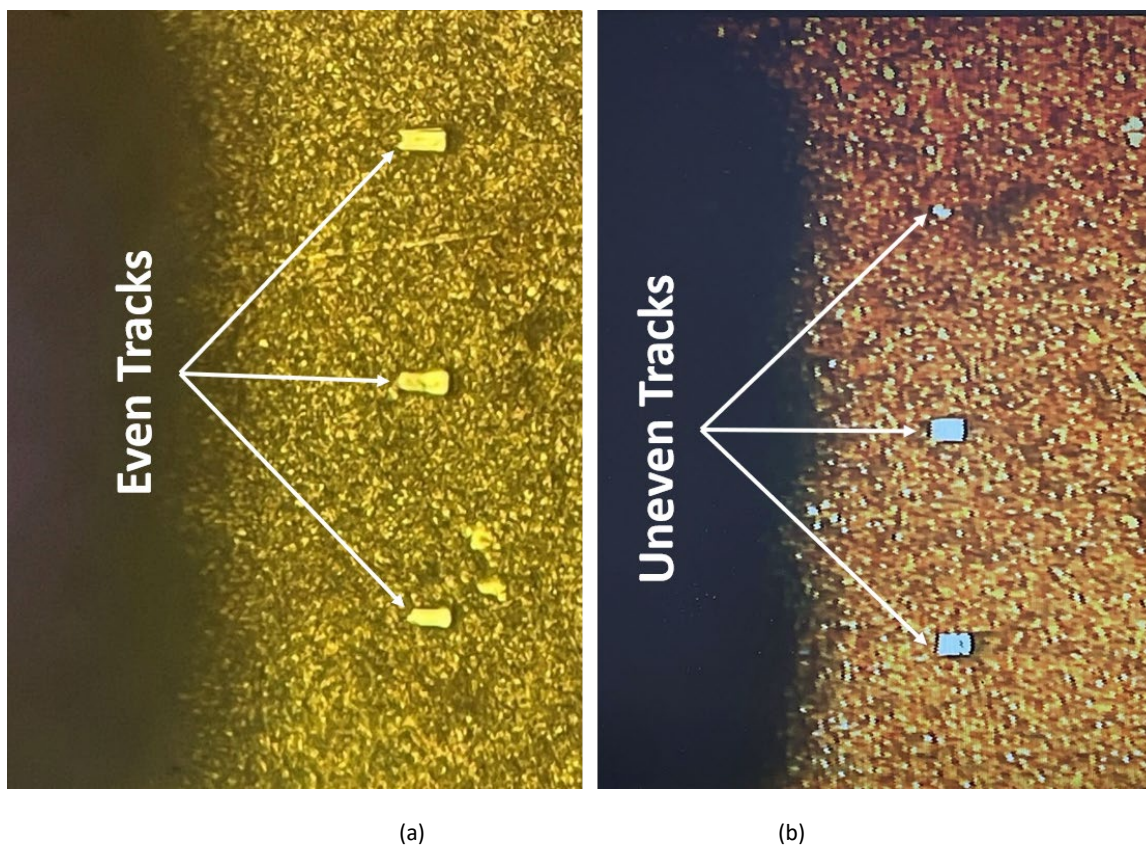

Fig. 4.3. (a) Even and (b) uneven tracks left by planarized and tilted probes, respectively.
- 4.7 While monitoring through the microscope the movement of the probes, bring one probe down further to contact the contact substrate. **Be gentle to avoid crash landing!** Allow the tips to skate on the contact substrate for about 25 μm as revealed by their tracks after the probes are lifted up [Fig. 4.3(a)]. Estimate the length of skate by comparing it to the probe pitch. For example, for a probe pitch of 100 μm , the skate should be about one quarter of the pitch, although orthogonal. **Don't damage the tips by making them skate too far!**
- 4.8 If the three tracks are uneven [Fig. 4.3(b)], finetune the θ -micrometer of the probe positioner, move to a new contact area, and repeat Step 4.7 until all three tracks are even [Fig. 4.3(a)]. **However, before adjusting the θ -micrometer, make sure the probe is lifted from contacting the substrate by lifting the z-micrometer!** Otherwise, you will grind the probe to death.